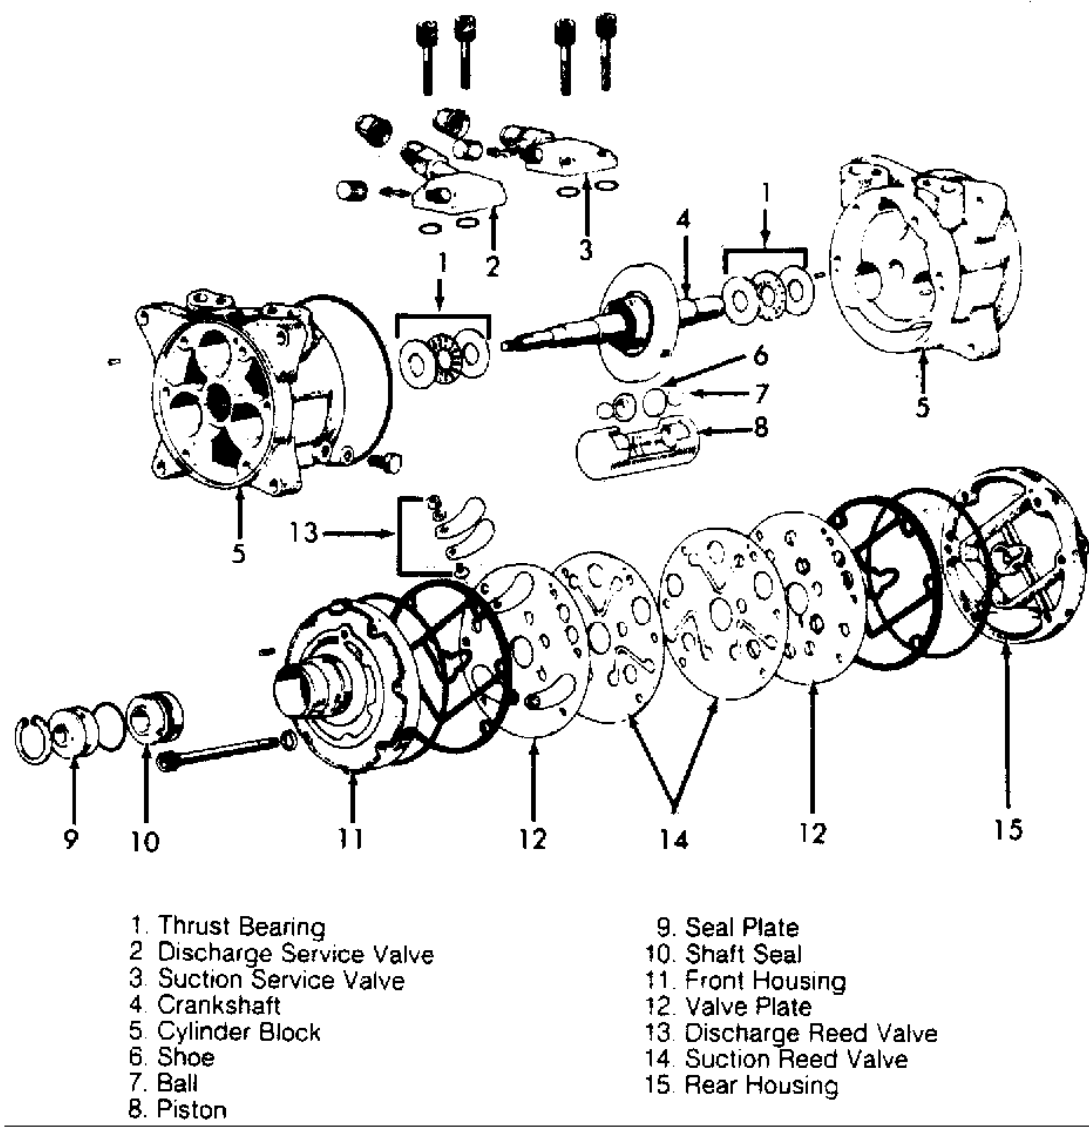

Fig. 14: Nippondenso 6-Cylinder Compressor
- 5. Remove 6 through bolts from front head of compressor and discard washers. Tap head loose from compressor; be careful not to scratch sealing surfaces. remove snap ring (if equipped) from front housing. Press seal plate out. Remove seal from shaft. See Fig. 14 .